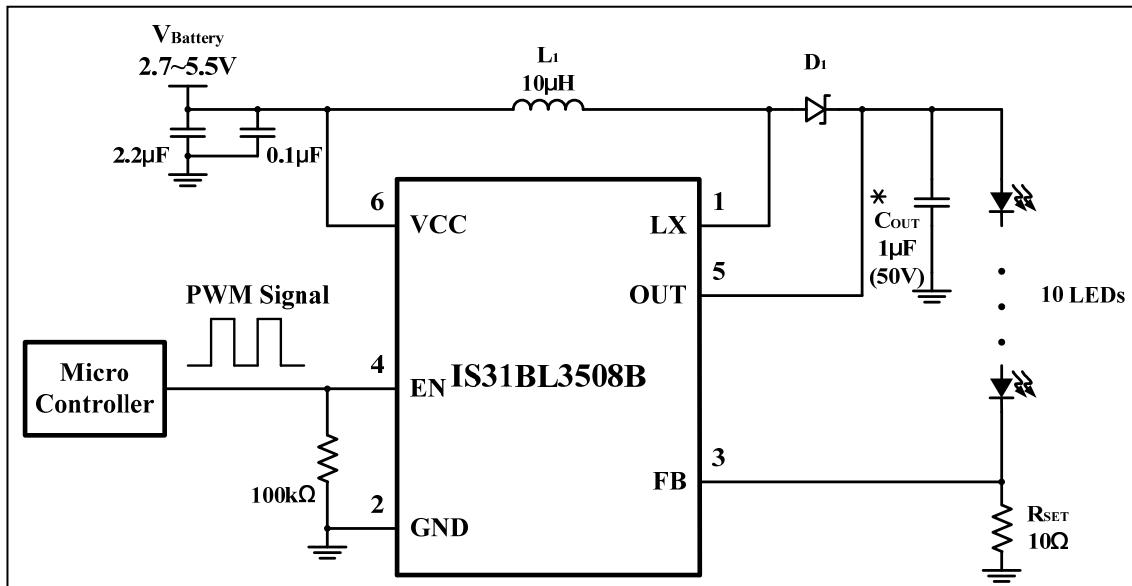

Figure 1 Constant current white LED driver using PWM at the EN pin to control intensity
The choice of the inductor value will affect the performance of the device. Large value inductors will reduce the current ripple in the inductor, thus reducing output voltage ripple. However large value inductors of the same current rating, typically also have larger DC resistance, thus reducing the system efficiency. For example in Figure 1, the loads are 10 WLEDs and output current is 20mA. The maximum input current can reach 300mA. For this application a 4.7 $\mu$ H or 10 $\mu$ H 400mA inductor is sufficient.
When the IS31BL3508B is used for LED driving applications (Figure 1), the LED current flows through the external feedback resistor RSET to regulate the LED current. The internal feedback regulation point is 0.2V. The maximum LED current may be calculated by the following Equation (1).
The EN pin of the IS31BL3508B can accept a PWM signal to implement LED dimming (Figure 1). LED current may be computed using the following Equation (2).